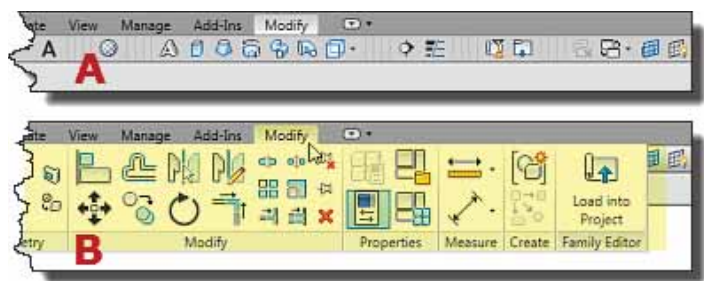

Figure 6 - Minimize to Tabs
- Minimize to Tabs (A, Figure 6): You gain the most screen space with this setting which is approximately 1 3/8". All you see are that tabs and the QAT. When you click any of the tabs, the corresponding panel and its tools pop out (B, Figure 6).